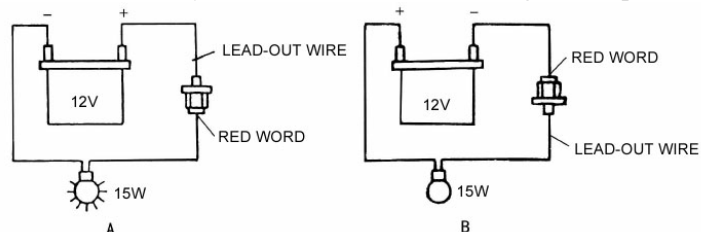

Fig.6-31 Test for silicon rectifying cell on base
4) Check the silicon rectifying cell. Use a series circuit formed with a battery and a 12V and 1.5W bulb to test the components (See Fig. 6-31)